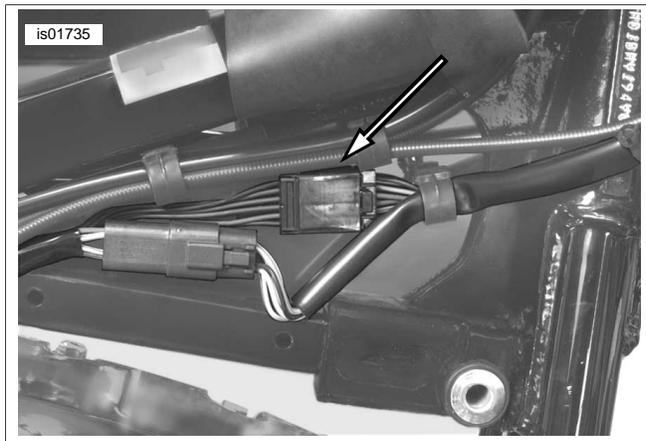

Figure 16. Softail Front Turn Signal Connector
1. See Figure 16 and Table 1. Locate and separate front turn signal connector under fuel tank on right side. Note wire color and cavity locations.